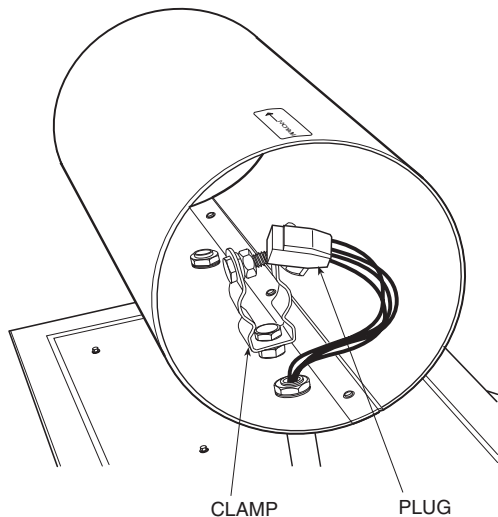

Fig. 2 — Germicidal Bulb Installation
7. Position bulb inside aluminum airflow tube. Route 4-pronged end of bulb through clamp. The rubber gasket should be inside the clamp area. Tighten wing nut on clamp to secure bulb inside airflow tube. Do not overtighten. See Fig. 2.